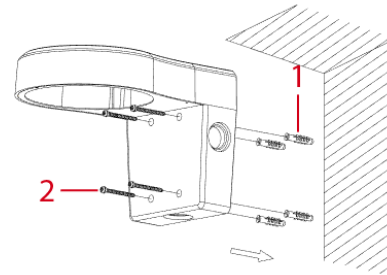

Figure 4
- D. Push the four screw anchors (1) (Fig. 4) into the four holes on the wall surface and place the wall mount against the wall so that the four holes on the wall mount align with the four holes on the wall surface.
- E. Screw the wall mount bracket to the wall with the four plastic screw anchors (1) (Fig. 4) and TP4x45 screws (2) (Fig. 4).